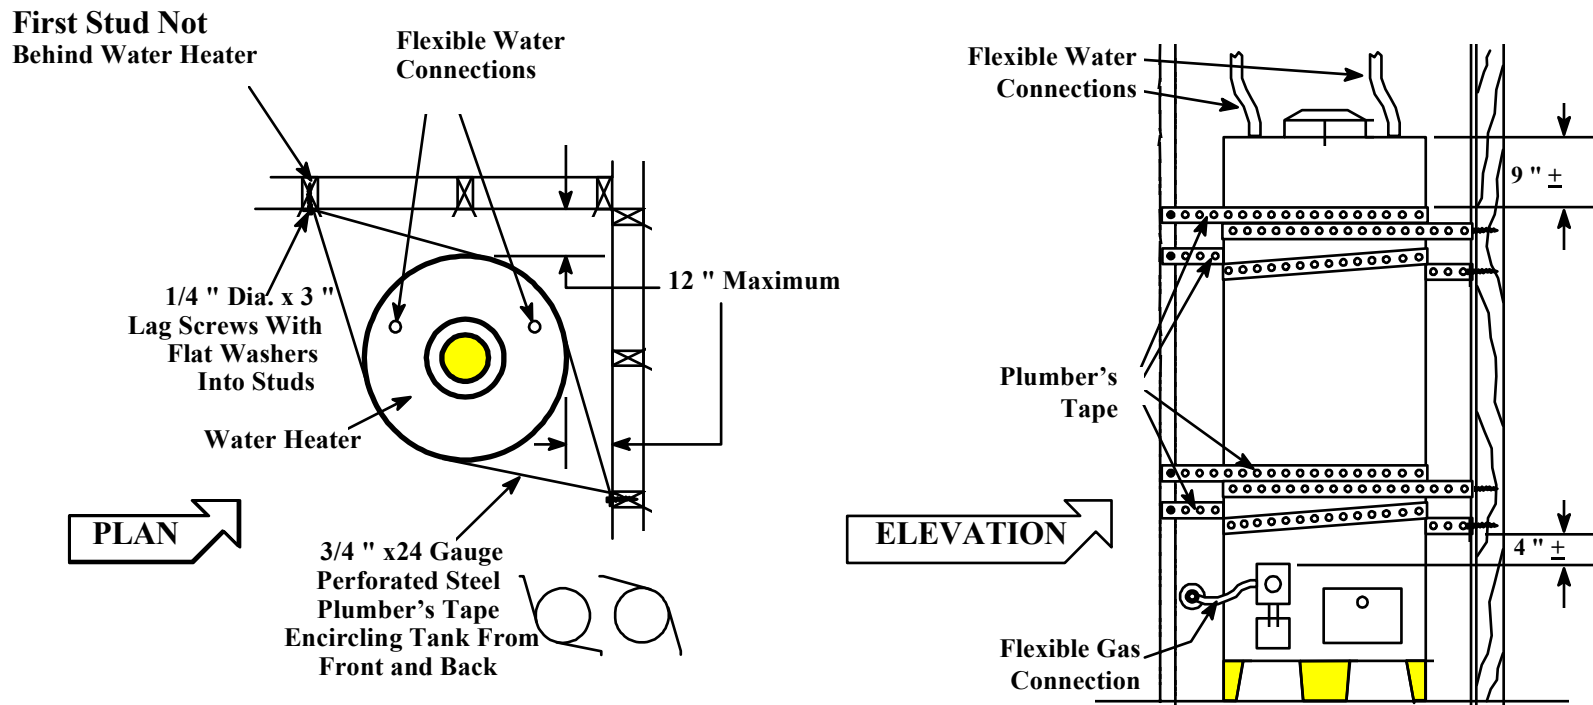

Figure II-10. Hot Water Heater Bracing
- Strapping the water heater to the wall in two places: from the top and from the bottom of the tank. Each strap should cross behind the water tank and fasten to wall studs behind the tank. (See Figure II-10 below.)